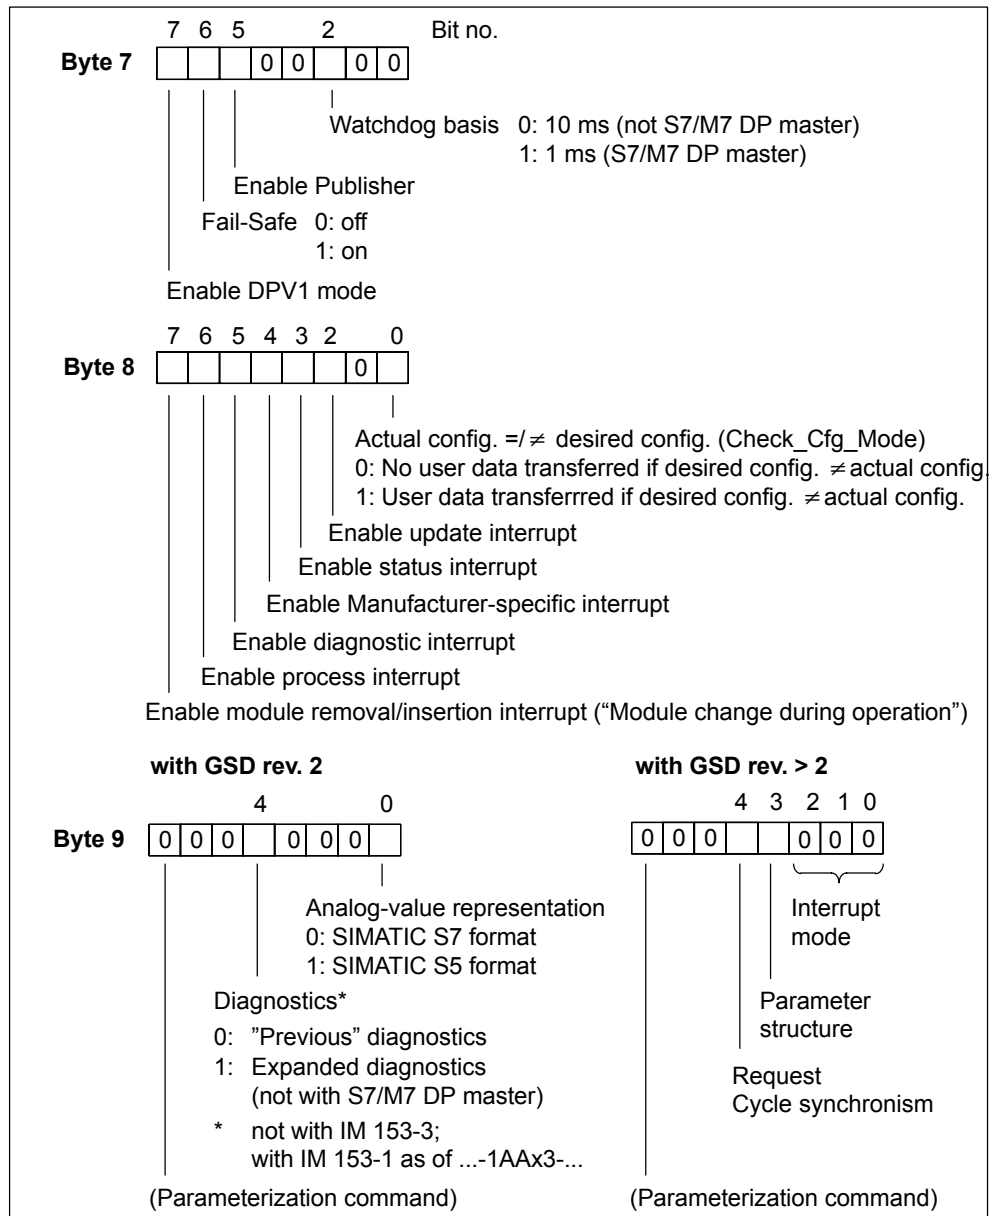

Figure 1-4 Parameters for the IM 153-x
**Note:** If you enable the diagnostic interrupts and the process interrupts for the modules (see Sections 1.2.7.2 to 1.2.7.7), you must also enable them for the IM 153-x (see Figure 1-4)!
The representation of the analog values may be parameterized (see Figure 1-4).